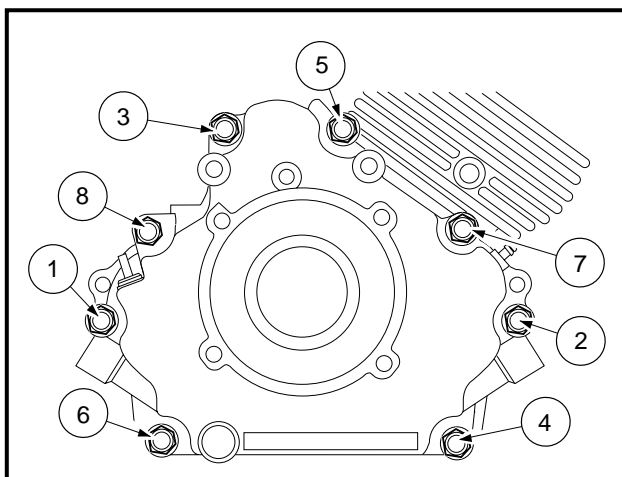

Figure 13-104 Crankcase Cover Installation
3. Install and finger tighten evenly the eight cover mounting bolts (**Figure 13-104, Page 13-47**).
4. Tighten the cover mounting bolts in two steps. First, in the sequence shown, tighten all eight bolts to approximately 130 in-lb (14 N·m). Then, repeating the sequence, tighten them to 250 in-lb (28.2 N·m) (**Figure 13-104, Page 13-47**).